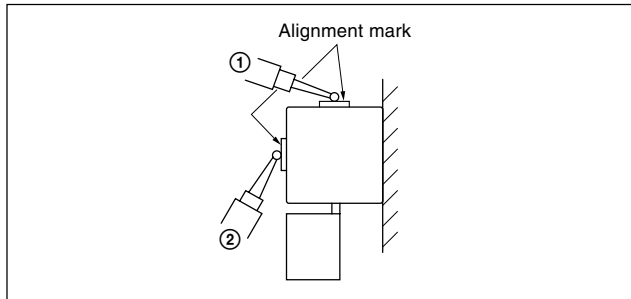

Fig. 3-7 Parallelness check of scale and machine table movement
Place a dial gauge directly where the alignment mark (Fig. 3-7 ① in the figure below) is positioned on the side of the scale, and check that the scale is surely mounted parallel to the machine table movement.
**(5) When the specified parallelism for the scale mounting bracket is not obtained**
Insert spacers below the feet and make adjustment by placing a dial gauge at ② in Fig. 3-7 to adjust the parallelism to within 0.15 mm (0.006") throughout the length between may be obtained at the alignment marks. For scales equipped with a center foot plate (effective length 1,250 to 1,600 mm (49.21 to 62.99 inch)), make sure that the parallelism near the center foot plate is also within 0.15 mm (0.006").